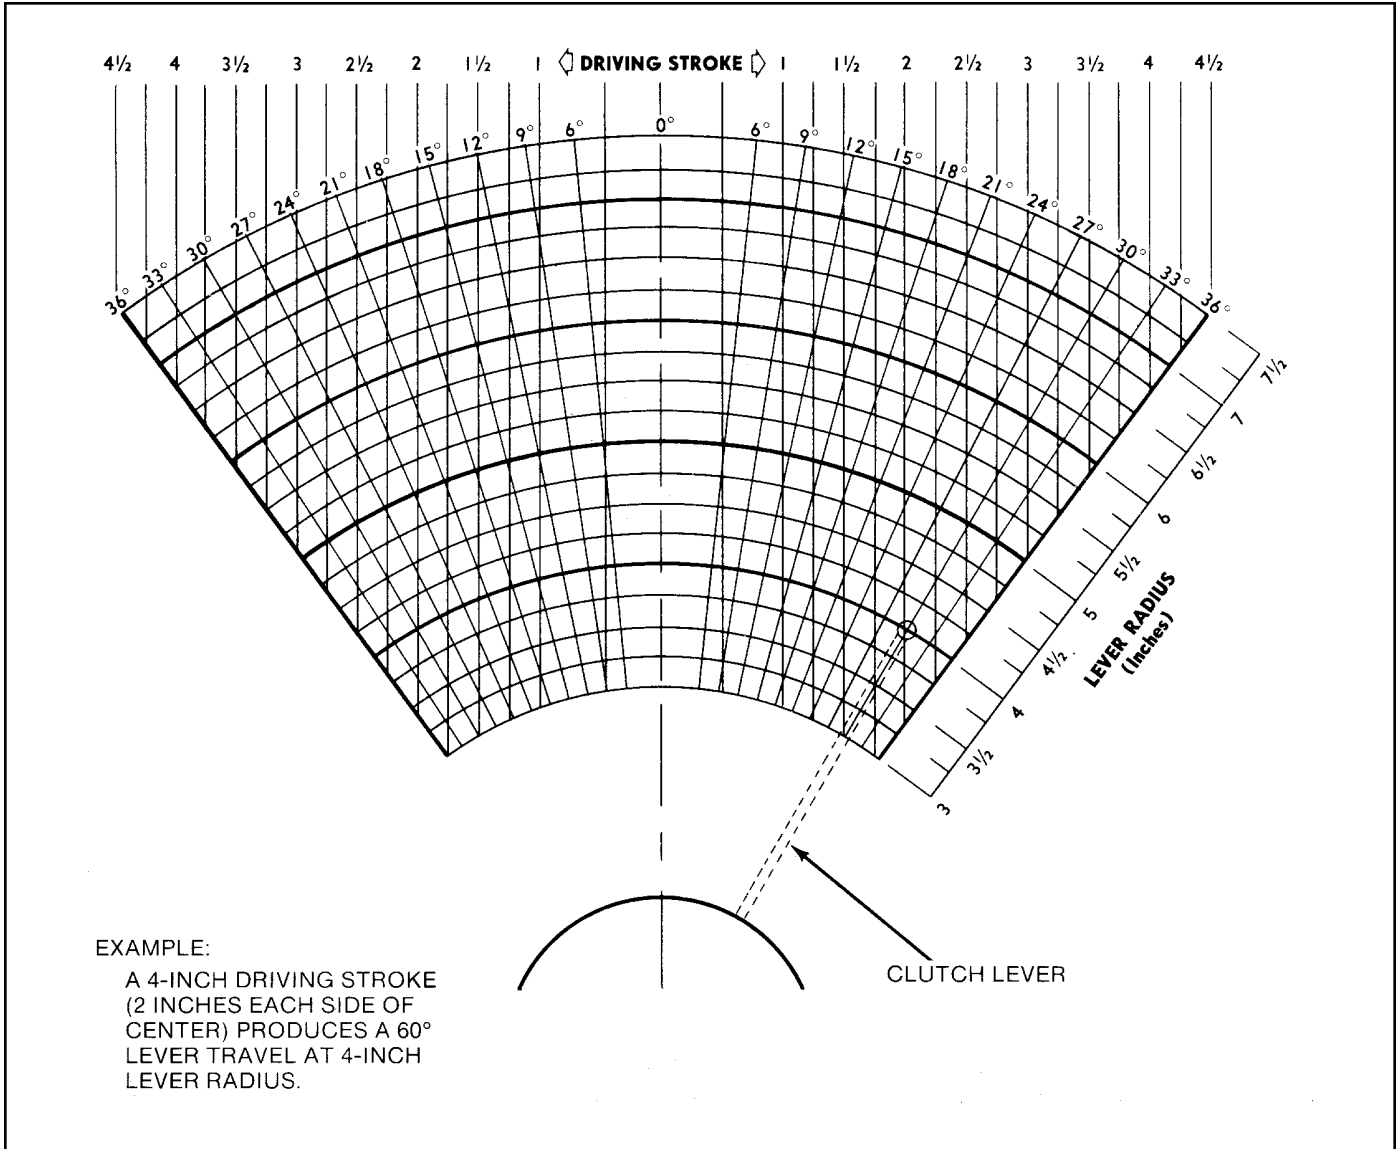

Figure 4-4. Clutch Lever Diagram
a. Using the clutch lever diagram (Figure 4-4) determine the anticipated clutch lever throw angle.